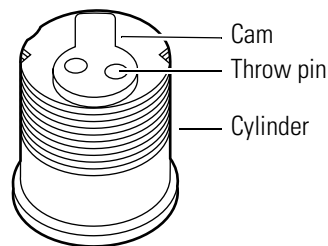

Figure 5.9 Removing the cam
4. Position a standard 3/32" punch at the center point of one of the two throw pins. See Figure 5.9.